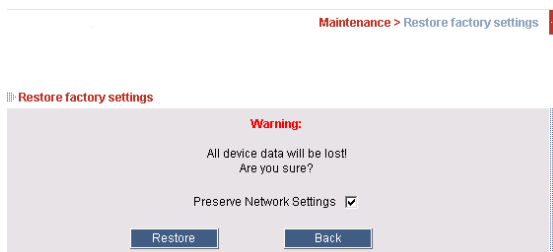

Figure 16 Restore factory settings
1. From the menu select **Restore Factory Settings**. Restore Factory Settings appears see Figure 16.